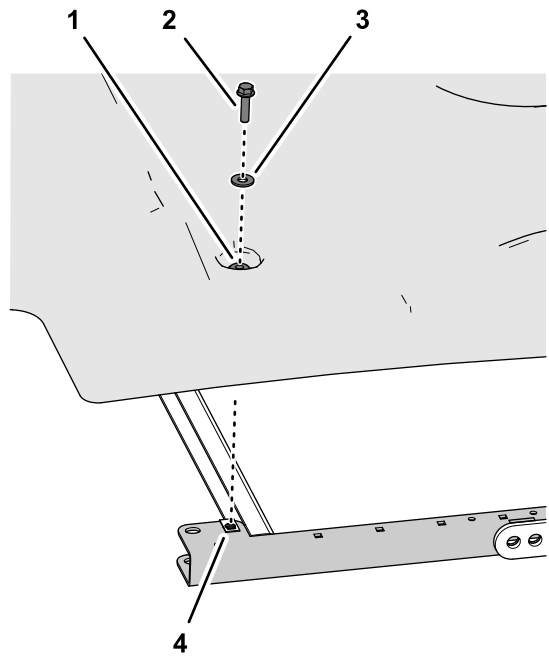
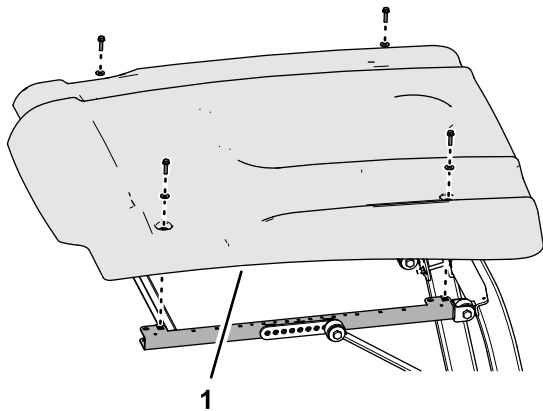

Figure 2
Figure 1
2. Remove the sunshade from the machine (Figure 1).
1. Remove the 4 flange-head bolts (5/16 x 1-1/4 inches) and 4 washers (5/16 inch) that secure the sunshade to the side-frame channels (Figure 1 and Figure 2).